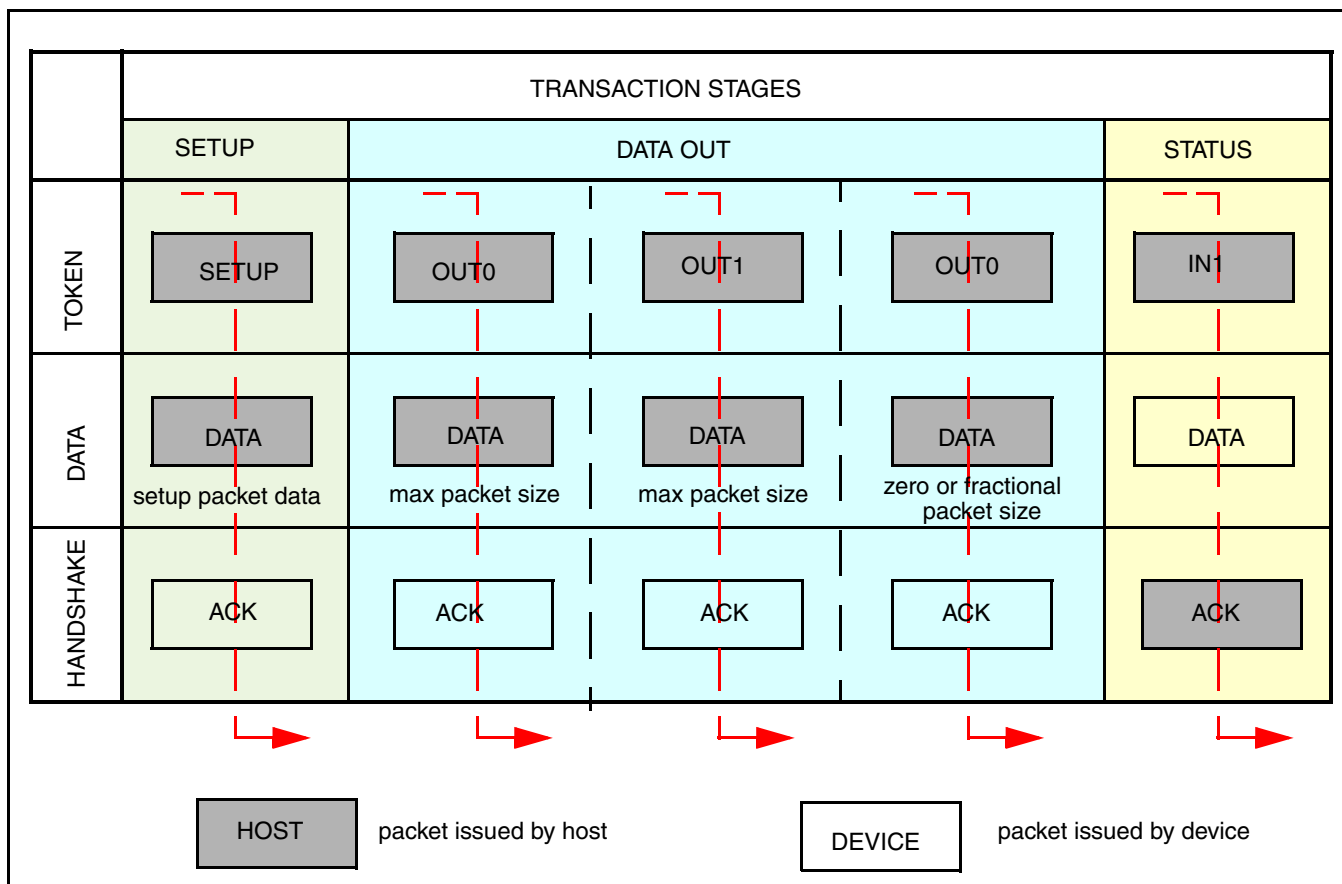
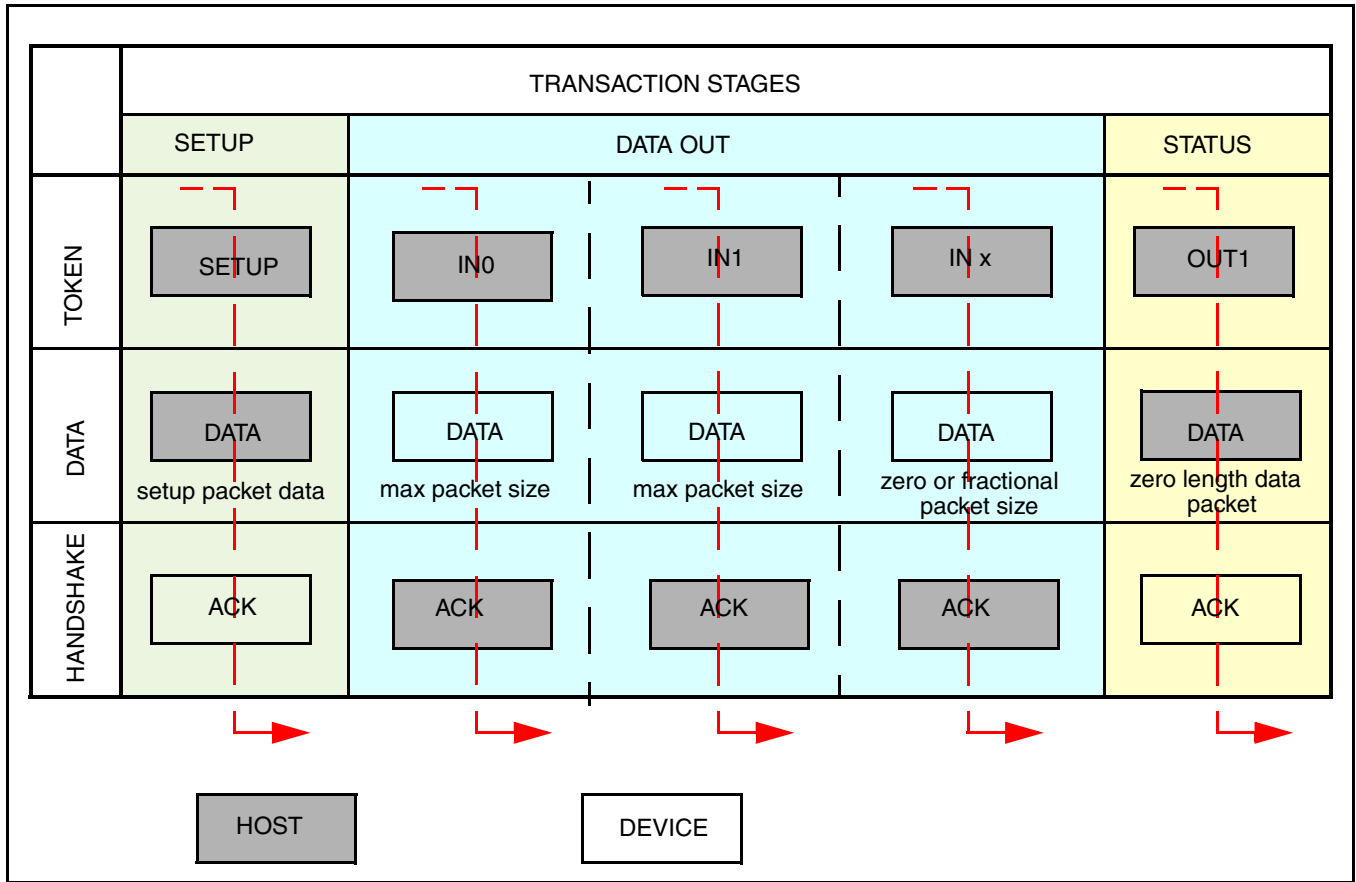

Figure 10. Control OUT Transaction — All Packets
Figure 11. Control IN Transaction — All Packets
- Status stage confirms whether the previous setup and data stage finished successfully (see Figure 10 and Figure 11)